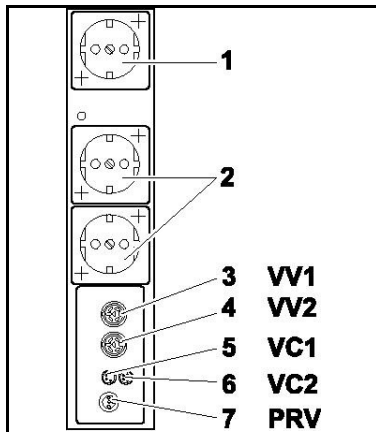

Fig. 10: Connections of the electrical supply unit
1. Connect signal socket of the vacuum controller with the electrical supply unit socket marked VC 1 (fig. 10/5) using the connection cable.
2. When using two vacuum controllers, connect the second vacuum controller's signal socket to the electrical supply unit's VC2 connection (6).
3. Insert the vacuum controller power cord plug into the designated electrical supply unit socket (2).
4. When using two vacuum controllers, insert the vacuum valves' plugs into the electrical supply unit's VV1 (3) and VV2 (4) connections.
5. Insert the pump vent valve plug into the electrical supply unit socket marked PRV (7).
6. Insert the vacuum pump power cord plug into the designated electrical supply unit socket (1).
2. Insert the coolant valve's plug into the vacuum controller's VV1 socket (see fig. 10/3).